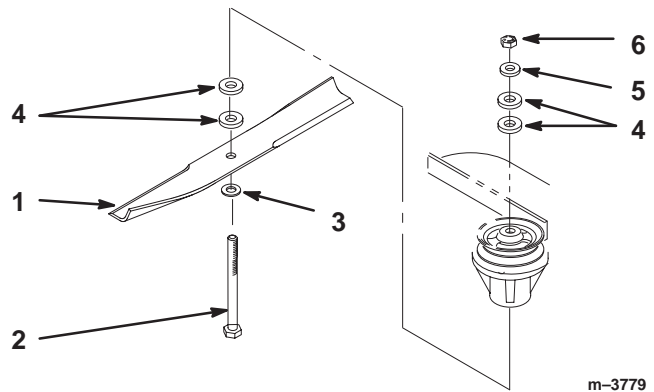

Figure 23
2. Hold blade bolt and remove nut. Slide bolt down, through spindle, and change spacers as required (Fig. 23).
3. Insert bolt, add extra spacer(s), and secure with thin washer and nut (Fig. 23).